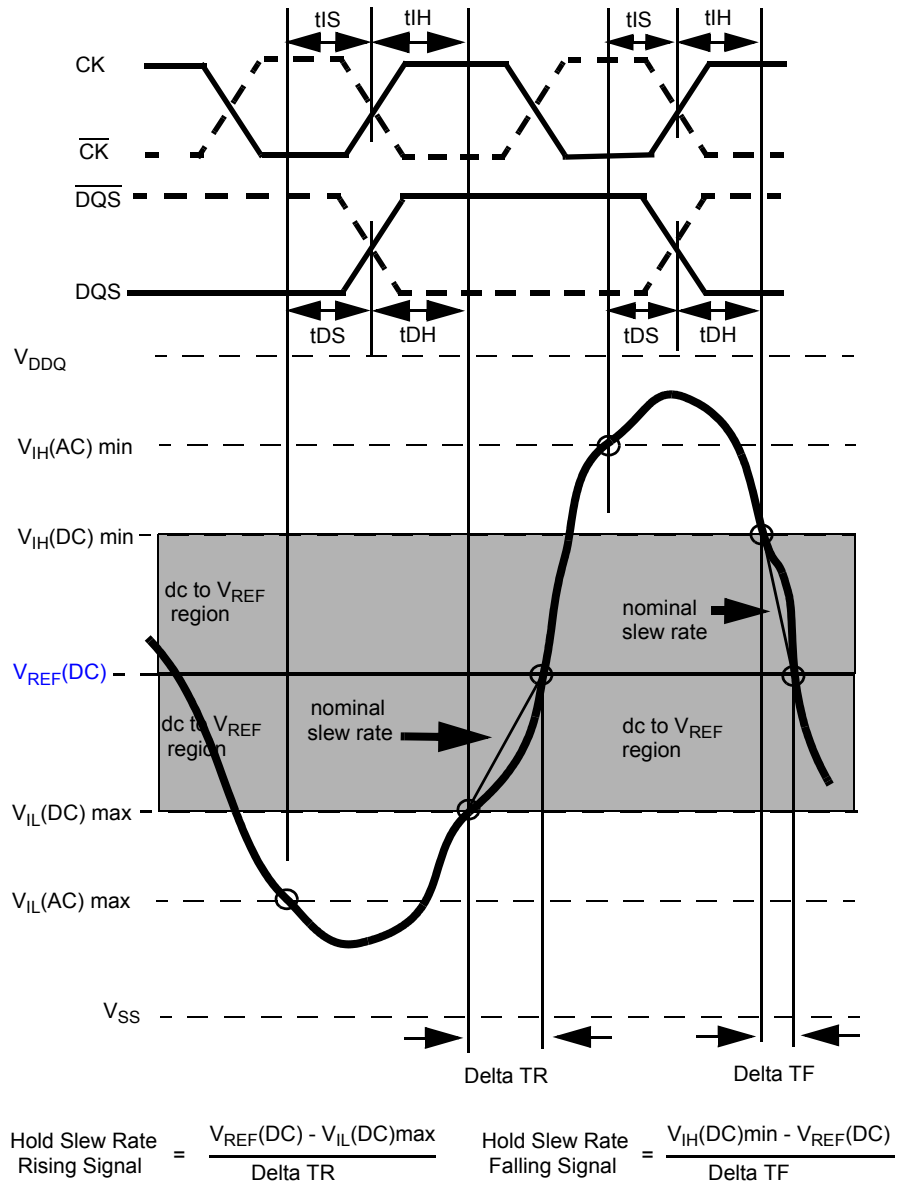
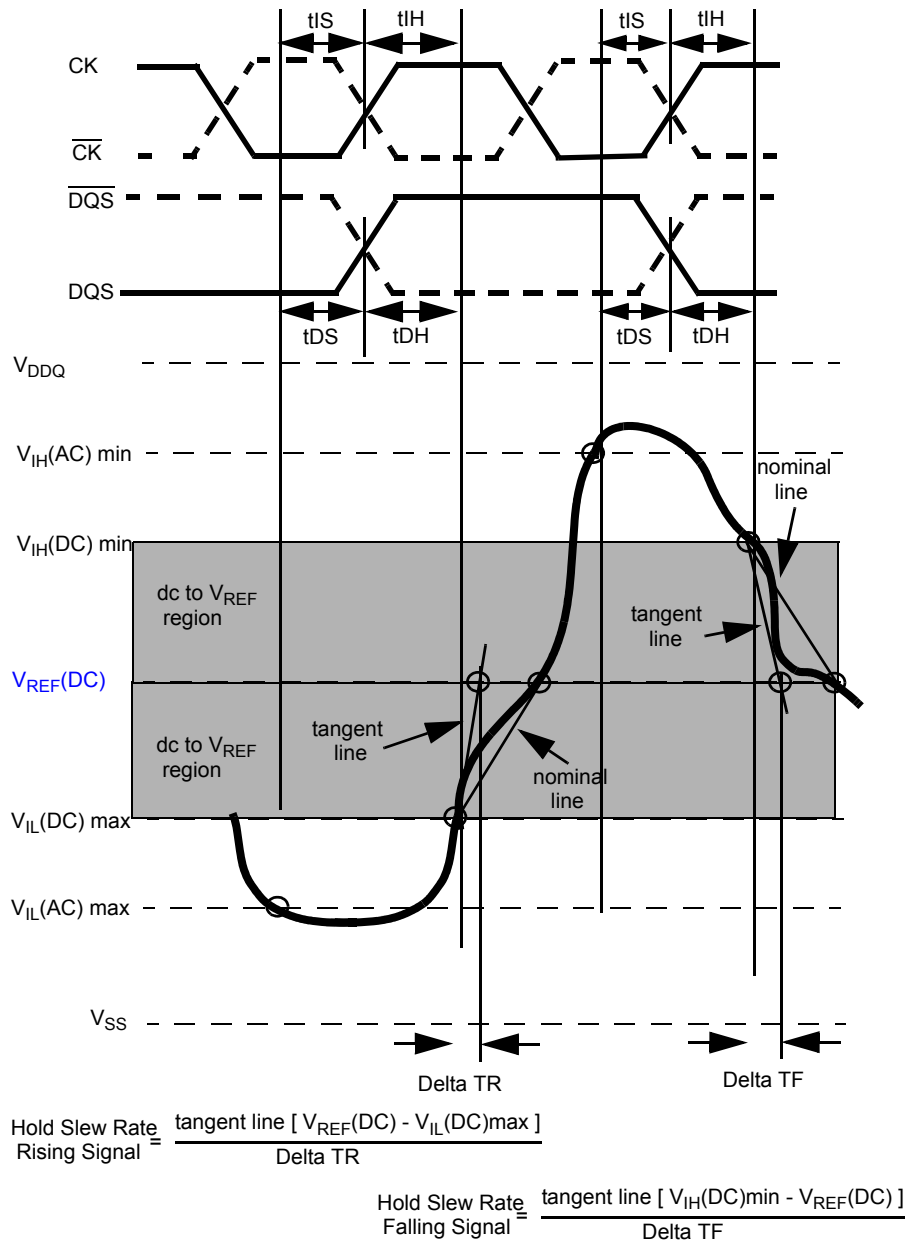

Figure 26 - Illustration of nominal slew rate for hold time  $t_{DH}$  (for DQ with respect to strobe) and  $t_{IH}$  (for ADD/CMD with respect to clock).
Figure 28 - Illustration of tangent line for hold time tDH (for DQ with respect to strobe) and tIH (for ADD/CMD with respect to clock)
Hold (tDH) nominal slew rate for a rising signal is defined as the slew rate between the last crossing of VIL(DC)max and the first crossing of VREF(DC). Hold (tDH) nominal slew rate for a falling signal is defined as the slew rate between the last crossing of VIH(DC)min and the first crossing of VREF(DC) (see Figure 26). If the actual signal is always later than the nominal slew rate line between shaded 'dc level to VREF(DC) region', use nominal slew rate for derating value. If the actual signal is earlier than the nominal slew rate line anywhere between shaded 'dc to VREF(DC) region', the slew rate of a tangent line to the actual signal from the dc level to VREF(DC) level is used for derating value (see Figure 28).